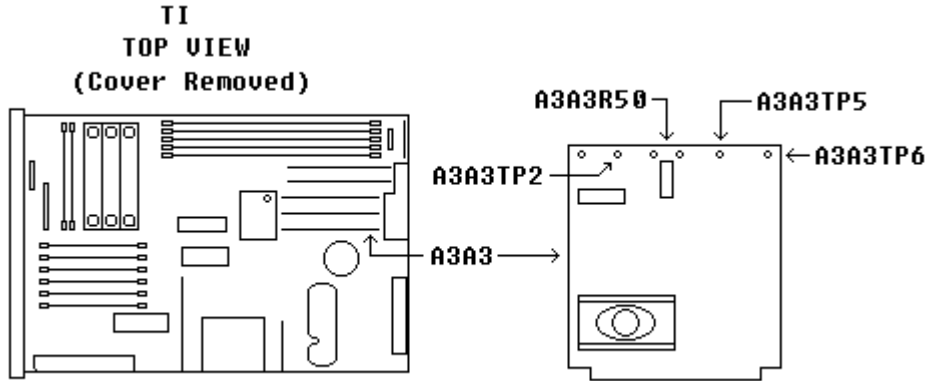

Figure 17. A3A3 card.
(2) Connect digital voltmeter to A3A3TP5 (fig. 17) and chassis. If digital voltmeter does not indicate between +19.998 V dc and +20.002 V dc, perform **b** (2) below.
- (2) Adjust A3A3R50 (fig. 17) for an indication of 20.000 V dc on digital voltmeter. No further adjustments can be made (R).